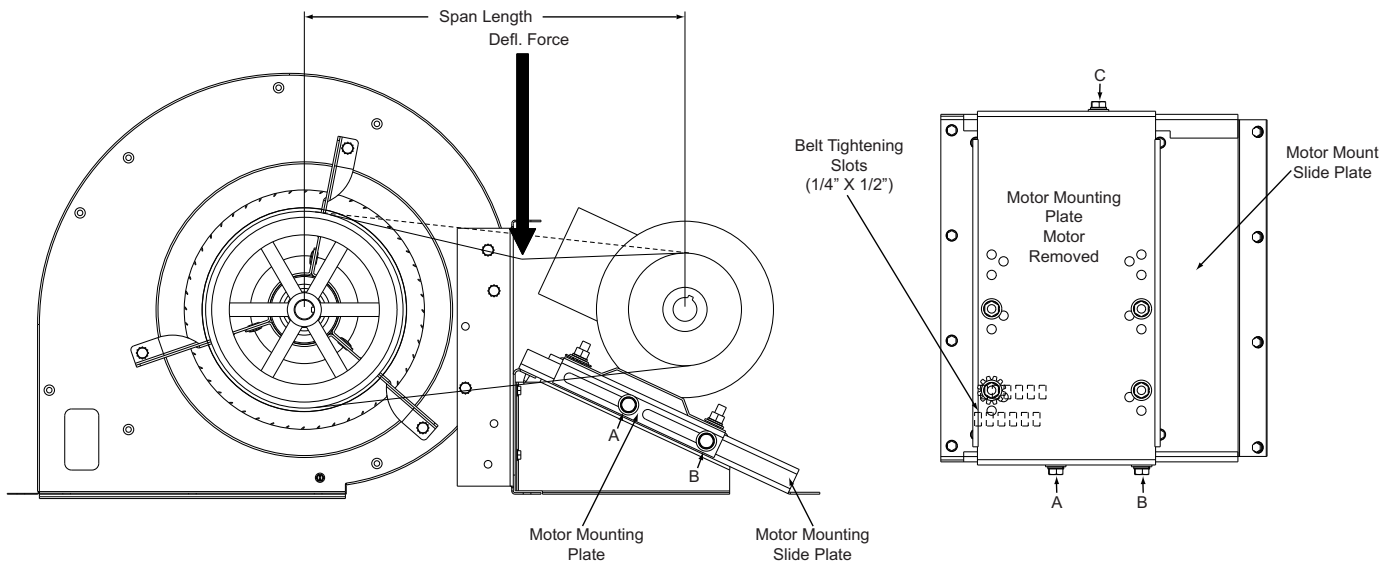

Figure 22: Belt Adjustment
The tension on the belt should be adjusted as shown in Figure 22.
2. Adjust tension by placing a flat heat screwdriver into the belt tightening slots (1/4" X 1/2") in the motor mount slide plate and applying pressure against the motor mounting plate. See Figure 22.